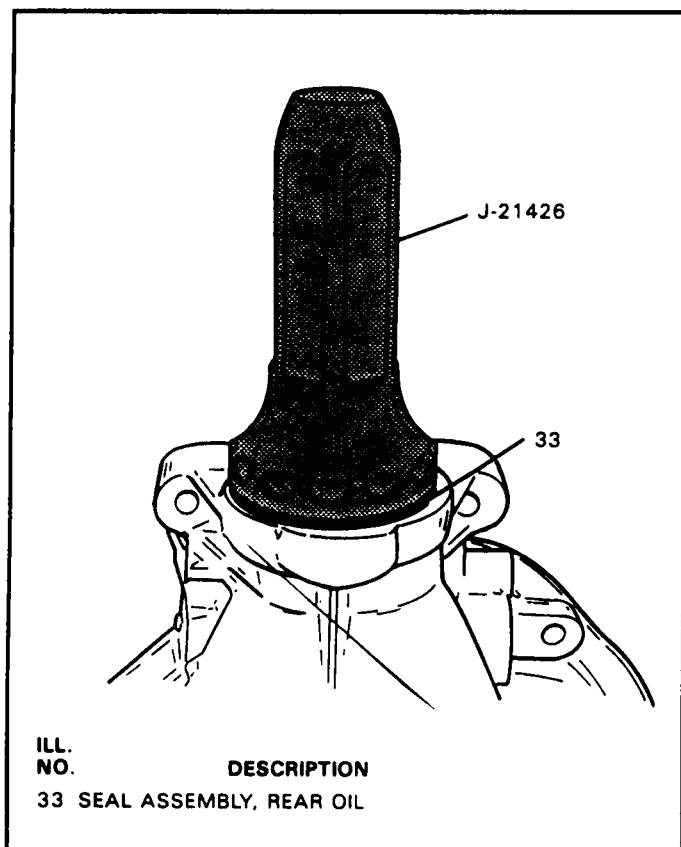

Figure 66
9. Rotate transmission and install a new output shaft seal into the case using driver J-21426 as shown in Figure 66.